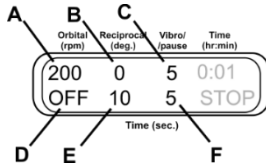
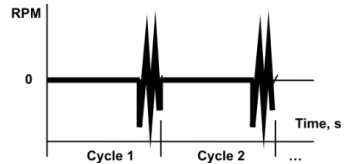

Fig. 11.
Fig. 12.
- 6.9.4. **Vibration + Pause.** Turn off Orbital motion by setting time of Orbital motion below zero (fig. 11/D, OFF). Set the amplitude of Reciprocal motion (fig. 11/B) to zero. Set the time for Reciprocal motion (fig. 11/E, 1–250 s), this is the time of pause duration. Set the amplitude (fig. 11/C, 0–5°) and time (fig. 11/F, 1–5 s) for Vibro motion. See figure 12 for process visualization.